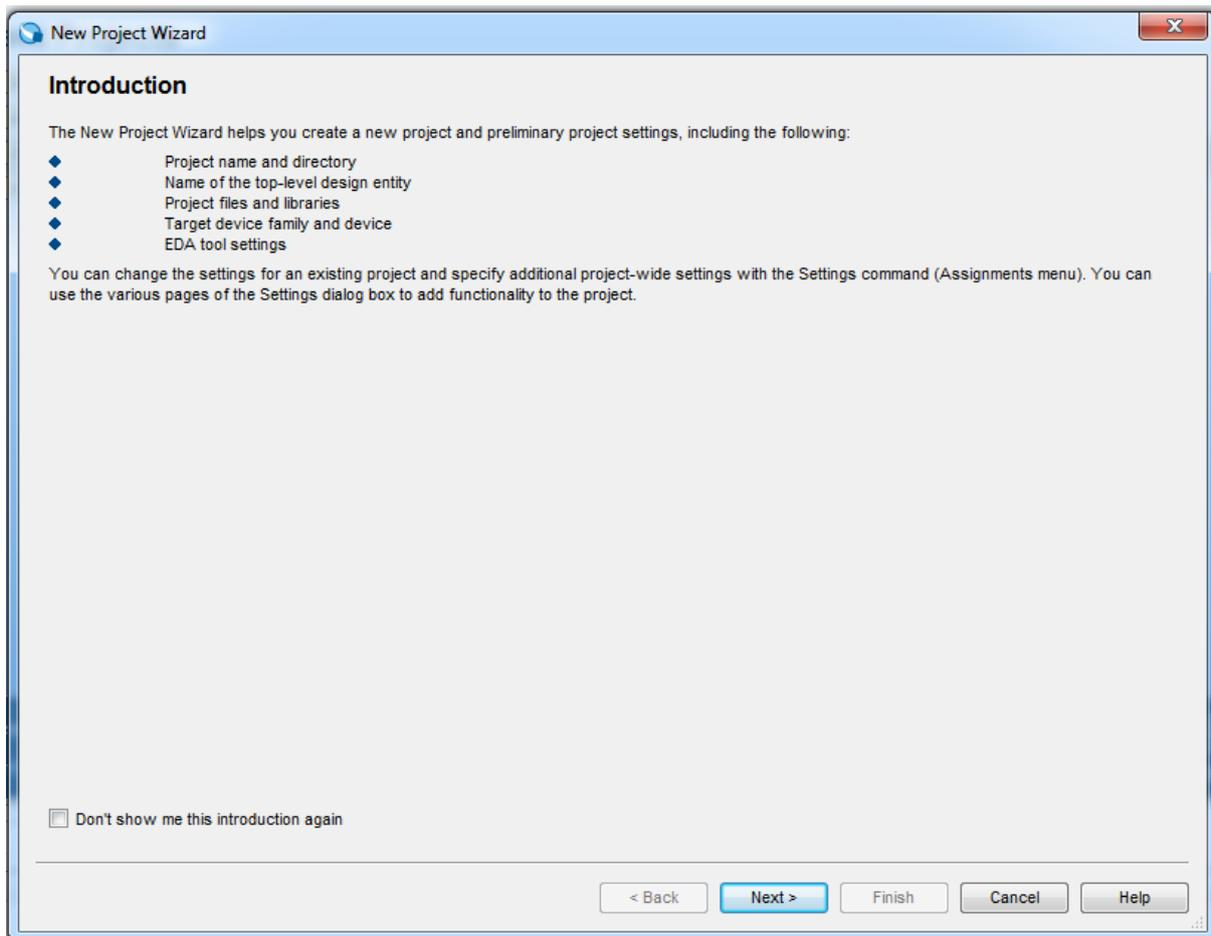

Figure 2-1 New Project Wizard introduction
1. In the Quartus II software, select File > New Project Wizard. The Introduction page opens. See Figure 2-1.